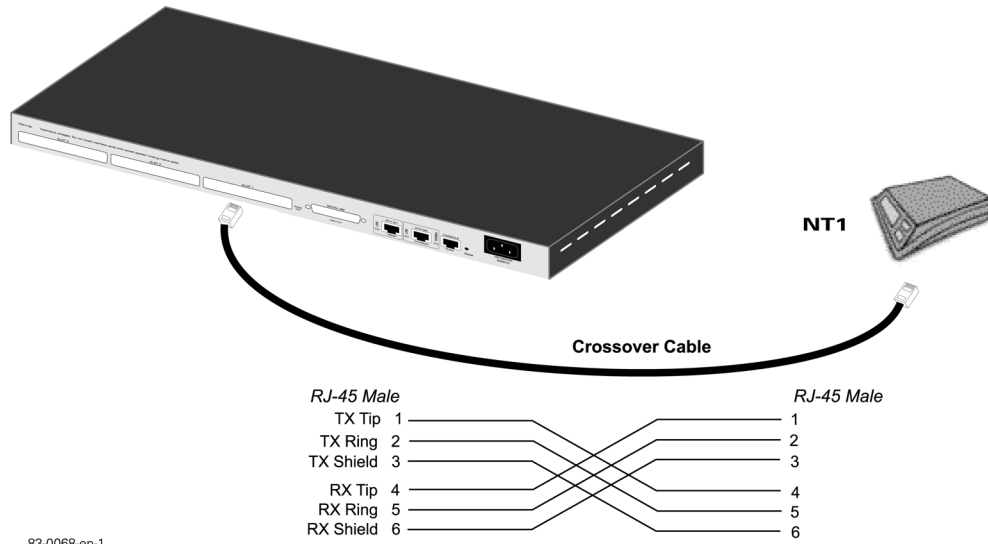

Figure 9: Connecting a PRI Port to an NT1
The PRI is usually connected to a PBX or switch (LE). Type and pin outs of these devices vary depending on the manufacturer. In most cases, a straight RJ-45 to RJ-45 can be used to connect the PRI with a PBX. A crossover cable is required to connect to a NT1, as illustrated in Figure 9.